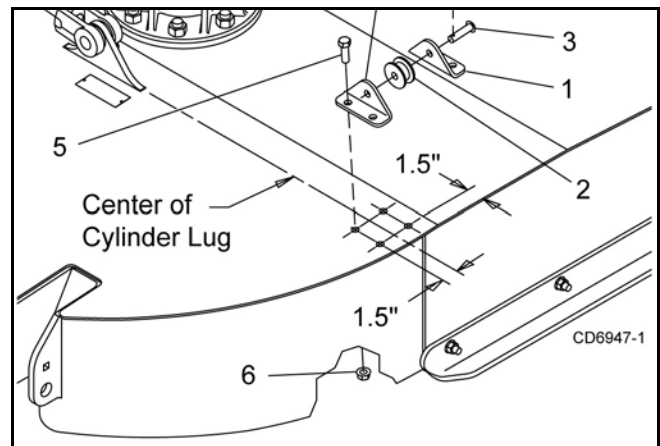

Figure 25. Roller Assembly Installation
1. Locate and drill one 9/16" hole in each wing using dimensions shown in Figure 25. Assemble items 1, 2, 3 and 4. Use assembly to locate and drill remaining holes.
2. Secure idler brackets (1) and rollers (2) to deck with bolts (5) and nuts (6).
3. Remove cylinder pin: Place channel (10) over cylinder and cylinder lug. Place wing lock-up bracket over channel and insert pin (8), washers (7), and cotter pins (9). NOTE: Washers (7) are used as spacers and are placed between lock-up bracket and channel (10) as needed.
- Repeat step to install second channel (10) on opposite wing.
- Attach winch assembly to channels (10) using bolts (5) and lock nuts (6).